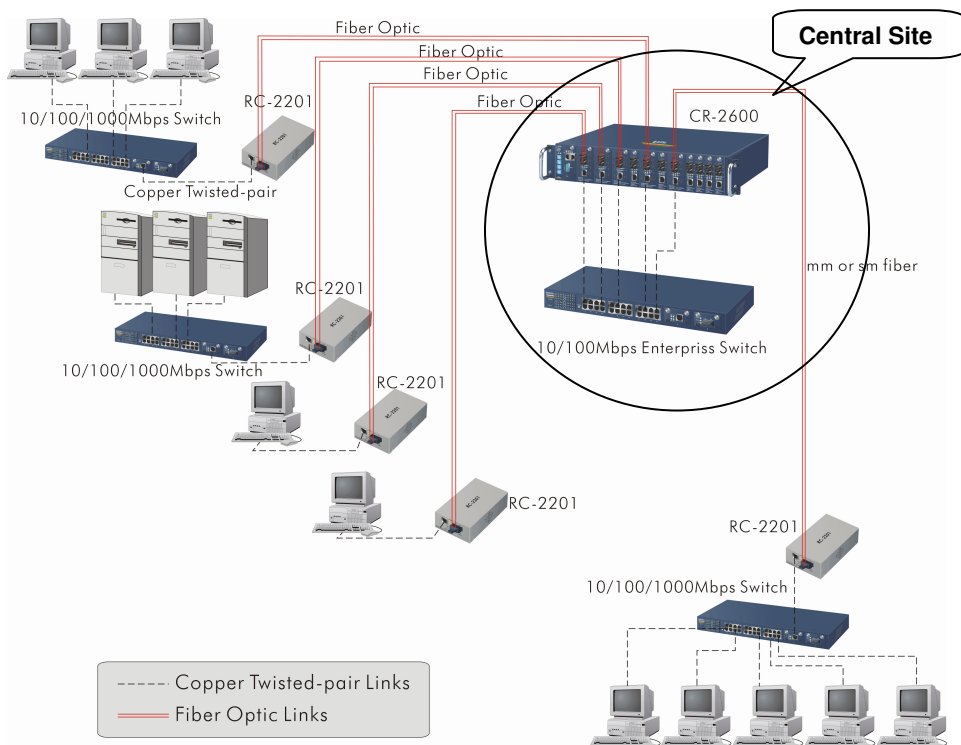

Fig. 2-1 Network Connection between Remote Site and Central Site
- Central Site/Remote site application is used in carrier or ISP. (See Fig. 2-1)
Fig. 2-1 is a system wide basic reference connection diagram. This diagram demonstrates how Signamax 065-1600 series Converter connects with other network devices and hosts.